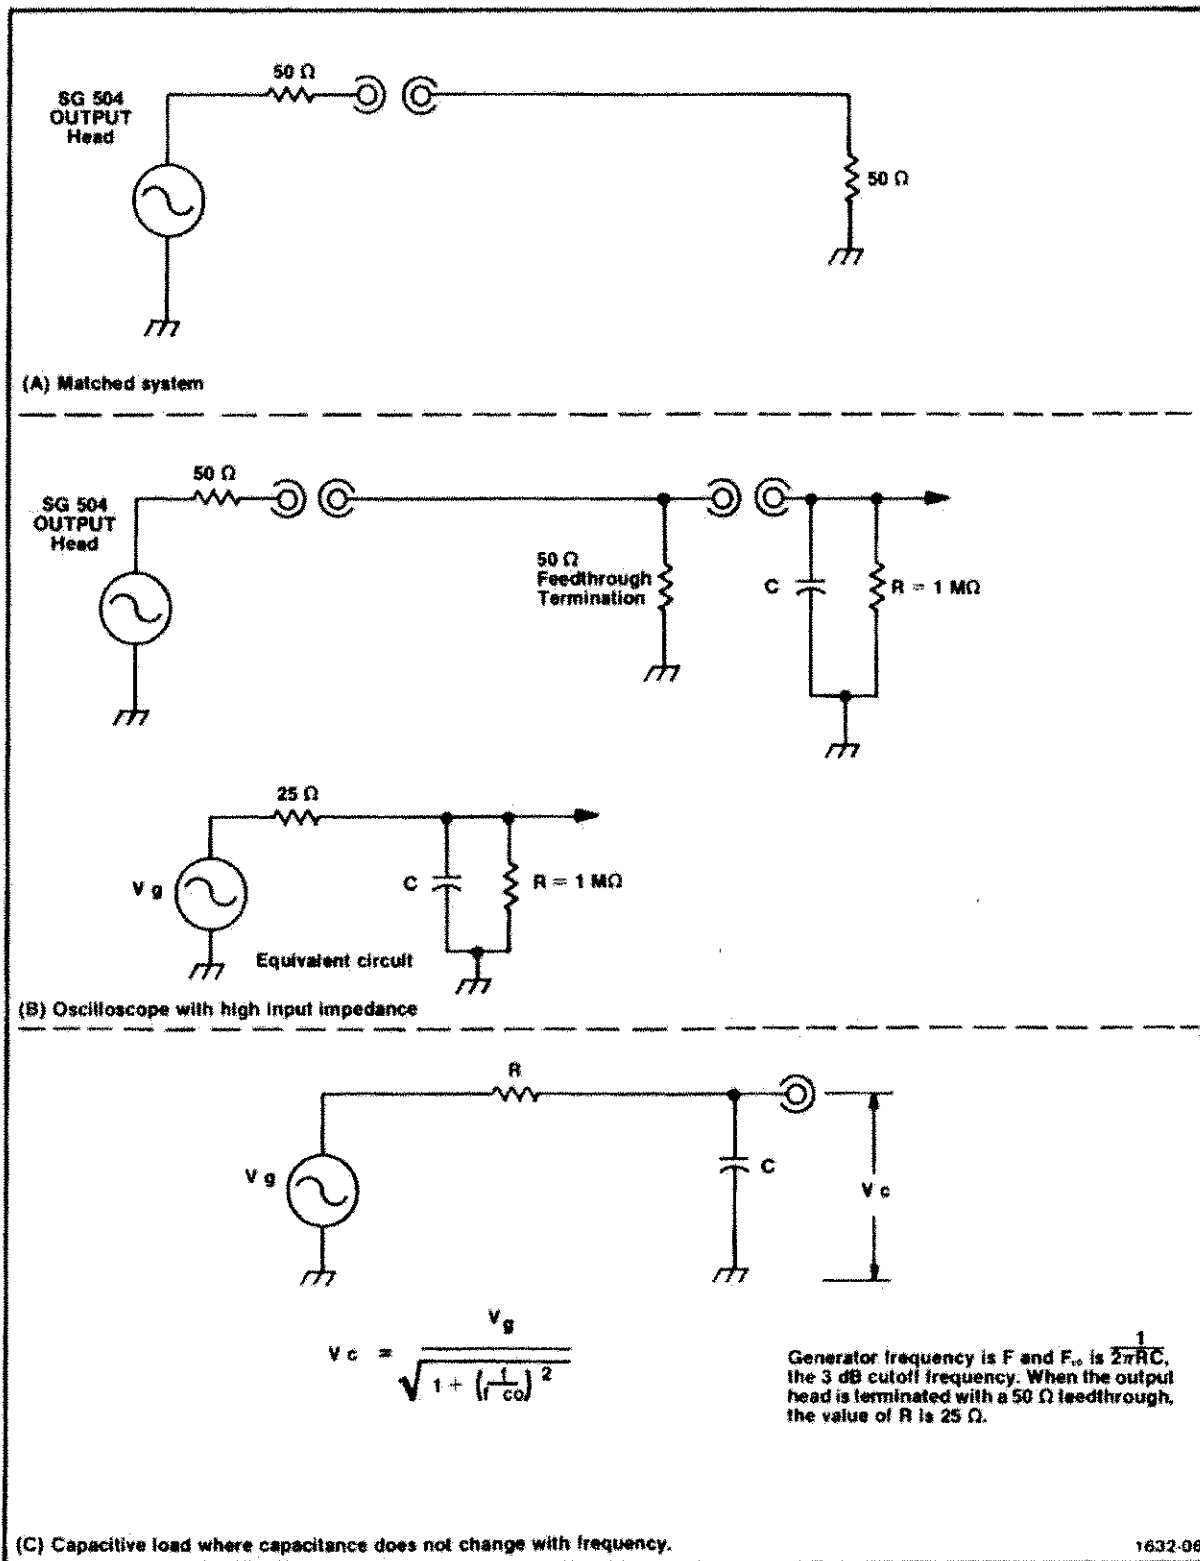

Fig. 1-3. Equivalent circuits for SG 504, 50-ohm coaxial cable and various terminations.
The SG 504 is designed to operate into a 50-ohm impedance. If the load is a much greater impedance than 50-ohm, connect a feed-through termination to the output head and then make connection to the load. Refer to Fig. 1-3(B) for reference.
When operating the SG 504, always consider the total load impedance and its effect on the output amplitude. The input capacitance of the equipment under test will affect the bandwidth. The equivalent circuit shown in Fig. 1-3(C) is useful in estimating the amplitude changes caused by capacitive loads. Note that as system input capacitance increases, bandwidth decreases.